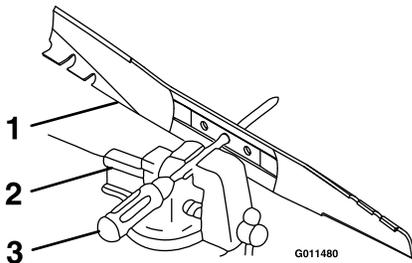

Figure 23
- C. Check the balance of the blade by placing the center hole of the blade over a nail or screwdriver shank clamped horizontally in a vise (Figure 23). If either end of the blade rotates downward, file that end (not the cutting edge). The blade is properly balanced when neither end drops.